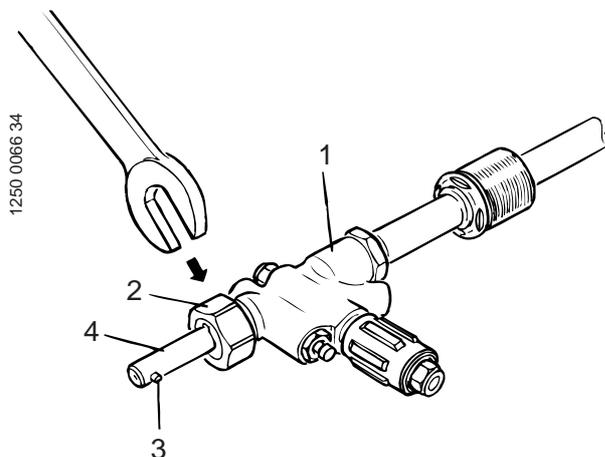

Fig. 20
17. Fit the piston-rod end (4) with pin (3) into the valve housing (1). Tighten the nut (2). See fig. 20.